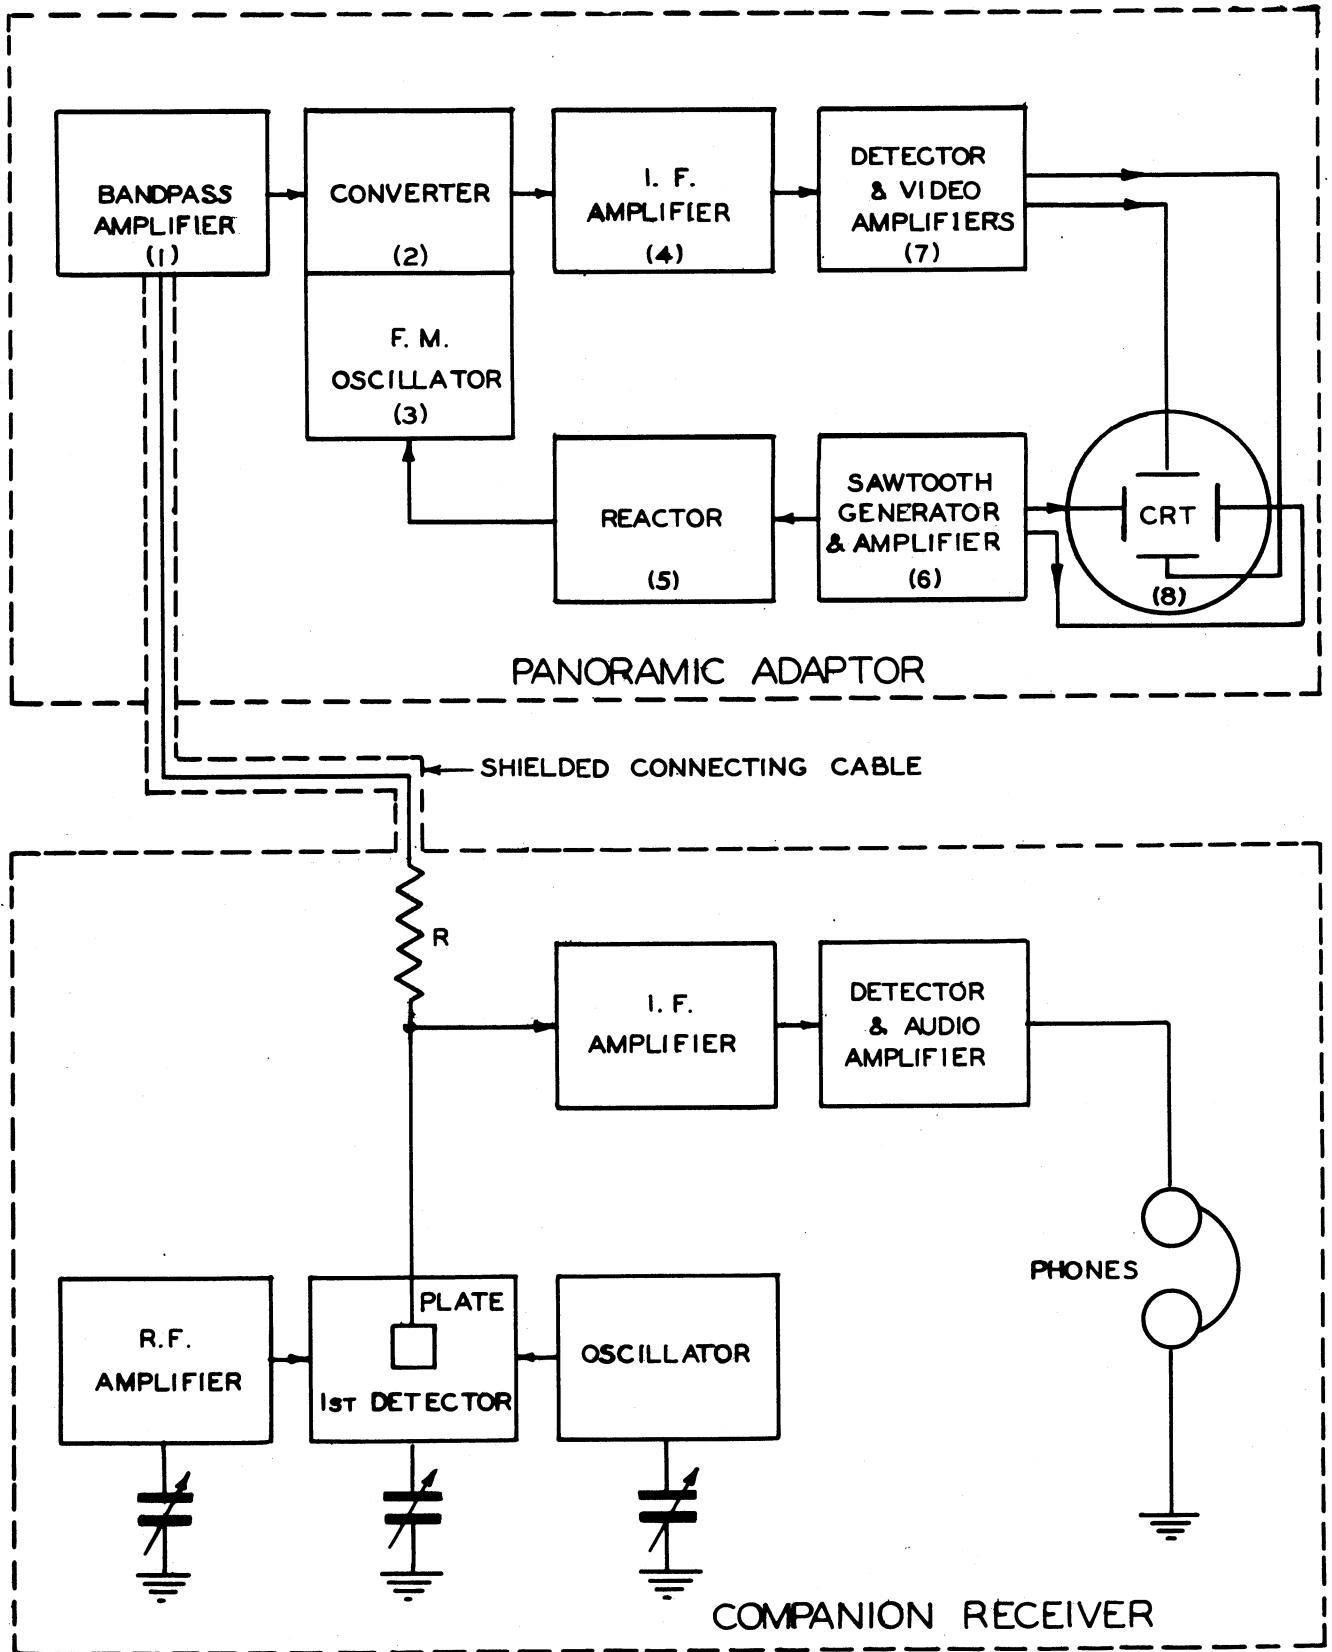

Figure 4-3. - Panoramic Adaptors, Navy Models RCX, RCX-1, RBW-2, and RBW-2M, Block Diagram.
a. Bandpass Amplifying Stage. - Refer to Block Diagram shown in Figure 4-3. for a description of the various steps by which Panoramic Reception is obtained. Block marked (1) is an R.F. bandpass amplifier (Fig. 4-3.) which is the input stage of the Panoramic Adaptor, and is connected to the plate of the first detector of the receiver, through the isolating or blocking resistor "R". This blocking resistor prevents detuning of the receiver and permits the latter to operate normally. Similarly, in the in the Block Diagram for Panoramic Adaptors RBU-1 and RBV-1, Fig. 4-4., the block marked (1) is an R.F. bandpass amplifier which is the input stage of the Panoramic Adaptor. Here, however, the input stage is connected to the plate of the first detector of the receiver through a cathode follower circuit to prevent detuning or loss of gain of the receiver.